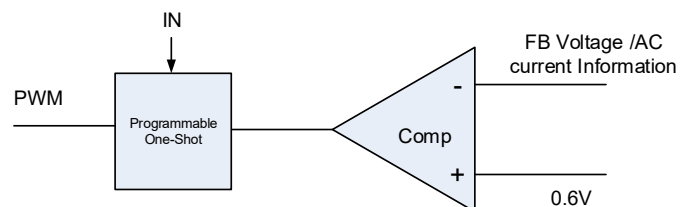

Figure 2. Simplified Control Schematic of AOZ2387QI
The simplified control schematic is shown in Figure 2. The high-side switch on-time is determined solely by an one-shot whose pulse width can be programmed by one external resistor and is inversely proportional to input voltage (IN). The one-shot is triggered when the internal 0.6V is higher than the combined information of FB voltage and the AC current information of inductor, which is processed and obtained through the sensed low-side MOSFET current once it turns-on. The added AC current information can help the stability of constant-on time control even with pure ceramic output capacitors, which have very low ESR. The AC current information has no DC offset, which does not cause offset with output load change, which is fundamentally different from other  $V^2$  constant-on time control schemes.